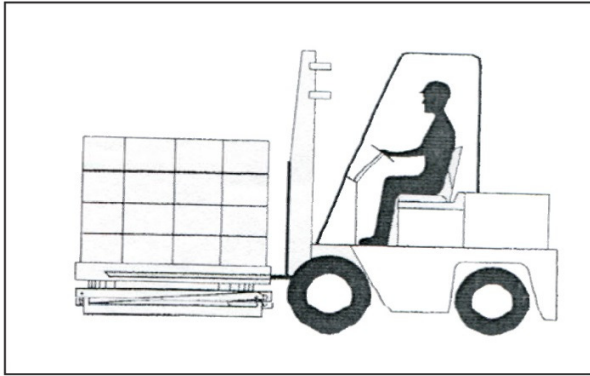

Figure 10. Loading with a forklift.
When adding a load to the unit, lower the forks completely before removing the fork lift. The pallet must be completely supported by the Level Loader. If you do not do this, the load may be dropped when you remove the fork lift. The unit or the load may be damaged, or you may be hurt. Figure 10, page 11, shows the correct way to load using a fork lift.
1. Place the load on the lift, then lower the fork lift. Before removing the load, be sure the unit is carrying the weight, not the fork lift. See Figure 10 on page 11.